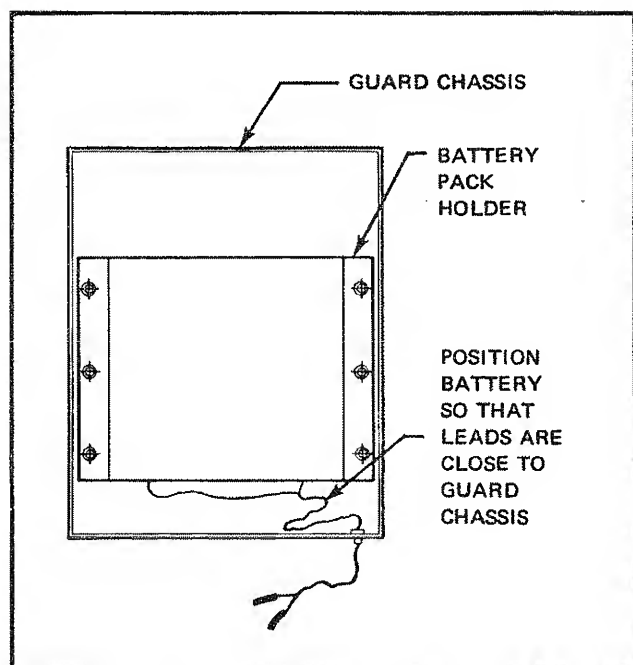

Figure 6-9. BATTERY INSTALLATION
- g. Install the battery pack on the underneath side of the top guard chassis, using the battery pack holder and the six machine screws (Figure 6-9).